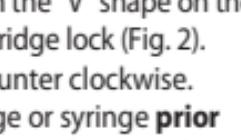

Fig. 4
- f) If necessary apply an intra-oral tip to the mixing tip (Fig. 4). Larger amounts of material can be extruded if the intra-oral tip is shortened by approx. 1 mm.